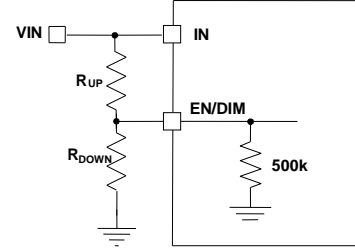

Figure 5: Adjustable UVLO using EN divider
3.5V while falling threshold is about 3.1V. For the application needs higher UVLO point, external resistor divider between IN and EN/DIM pins can be used to get higher equivalent UVLO threshold (see Figure 5).